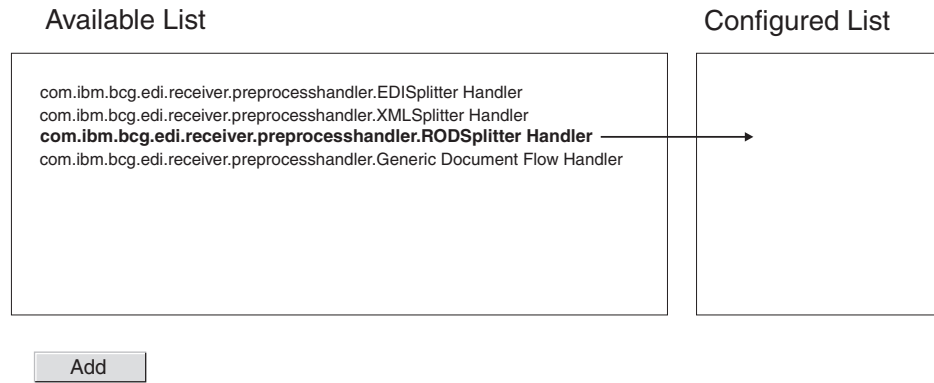

Figure 17. Configuring the preprocessing step for a receiver
- a. Select a handler from the **Available List** and click **Add**. Note that the handler moves from the **Available List** to the **Configured List**, as illustrated in Figure 17 on page 75: